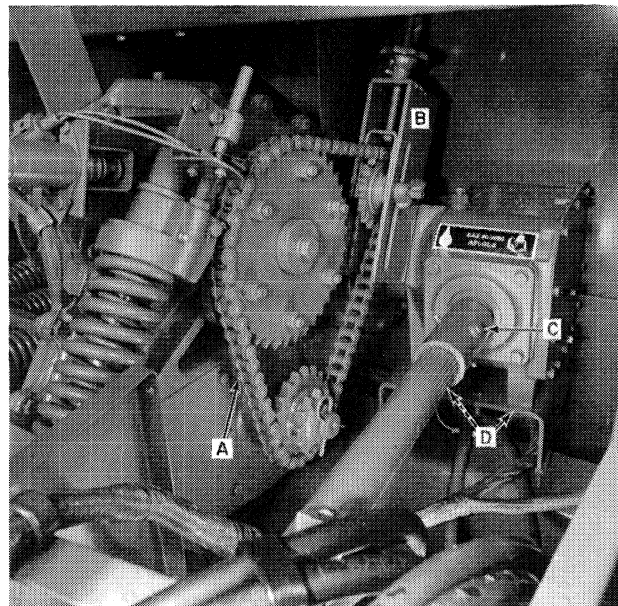

FIGURE 1-5
9. Remove the length-of-cut chain, A, Figure 1-5, and idler bracket, B.
10. Remove the coupler bolt, C, Figure 1-5. Remove the paint from the shaft splines and slide the coupler forward off the gearbox shaft.
12. Remove the four bevel gearbox mounting bolts, D, Figure 1-5.